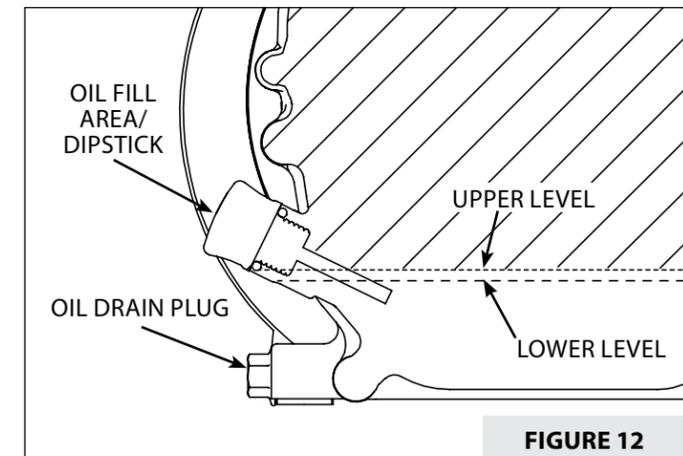

FIGURE 12
2. Remove oil drain plug and empty oil into suitable oil container. Dispose of oil properly. **SEE FIGURE 12.**
3. Reinstall drain plug. Remove dipstick (if applicable) or oil fill cap. **SEE FIGURE 12.**
4. Fill with appropriate oil to **FULL** or top line of dipstick; otherwise to top thread of oil fill hole. **SEE FIGURE 12.** **NOTE: Oil capacity is 0.63 qt / 20.2 oz. See above, under lubrication, for correct engine oil grade.**